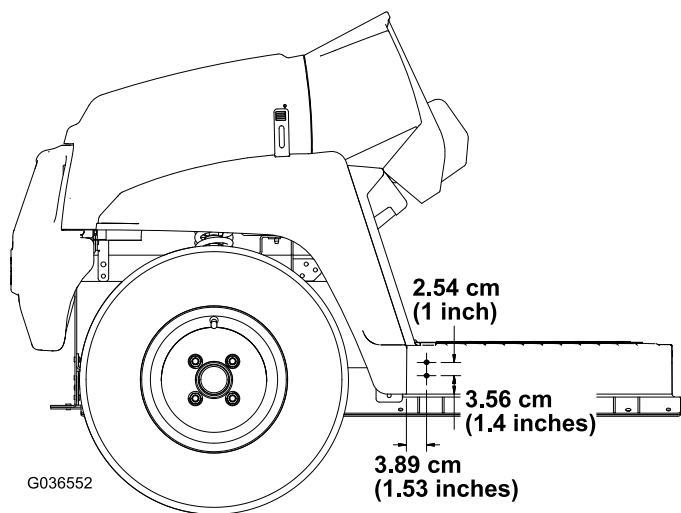

Figure 3
2. Using the dimensions shown in Figure 3, drill 2 holes (5/16 inch) into the outside of the floor plate on the left and right sides of the machine.